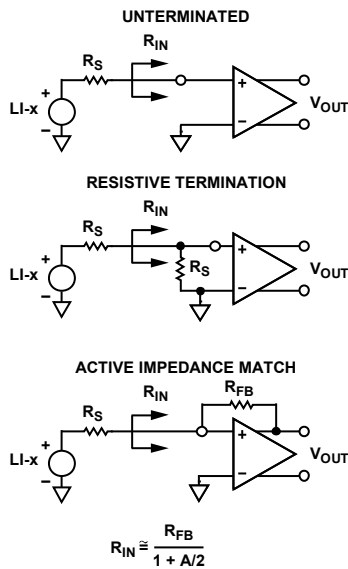

Figure 40. Input Configurations
The short-circuit noise voltage (input-referred noise) is an important limit on system performance. The short-circuit input-referred noise voltage for the LNA is 0.85 nV/√Hz at a gain of 21.3 dB, including the VGA noise at a VGA postamp gain of 27 dB. These measurements, which were taken without a feedback resistor, provide the basis for calculating the input noise and noise figure (NF) performance of the configurations shown in Figure 40.